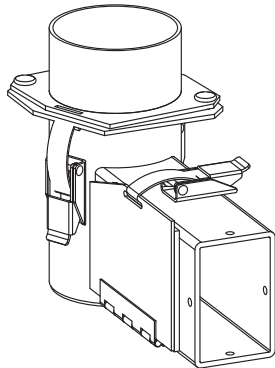

Figure 20.1
1. Remove the top vent adapter from the vertical exhaust transition pipe (Figures 20.1 and 20.2).